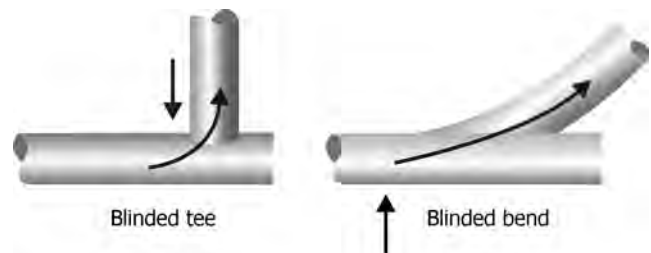

FIGURE 7.16 Blind tee and blind bend with arrows showing impact points.
- Figure 7.16 illustrates a blind tee and a blind bend showing solids impact points by means of arrows.